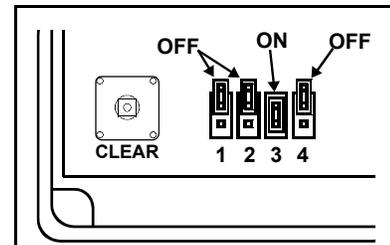

Fig 1. CLEAR Button and Jumpers.
6. Connect the battery (a chirp will sound; this chirp will confirm that power is connected properly). **Important:** Press the small **CLEAR** button at the lower-left corner of the circuit board (see Fig. 1).
8. Select jumper options (J1 - J4) as follows: Refer to Fig. 1; the unit is factory supplied with the Annunciator option enabled (J3 installed) and 2-Minute Shutdown alarm selected (J4 removed).